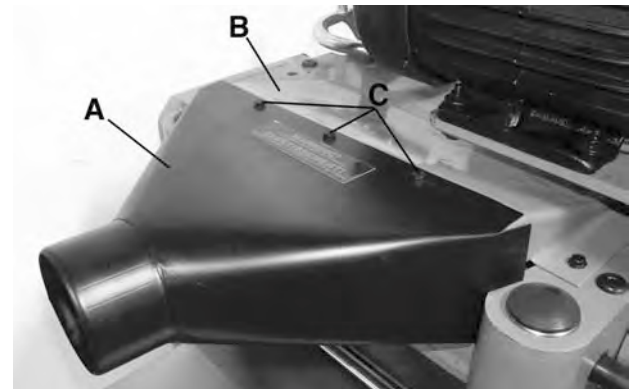

FIGURE 6
Supplied with your 15" planer is a 4" dust chute (A) Fig.6, which gets assembled to the top cover (B) at the rear of the machine, as shown. Only install the dust chute if you plan to connect a dust collection system, this will provide an efficient means of maintaining a clean and safe work area.
1. Secure the top of the dust chute (A) Fig.6 to the top cover (B) using three hex. bolts, six washers and three hex. nuts (C). You will need to reach into the dust chute to get access for fastening the hex. nuts.